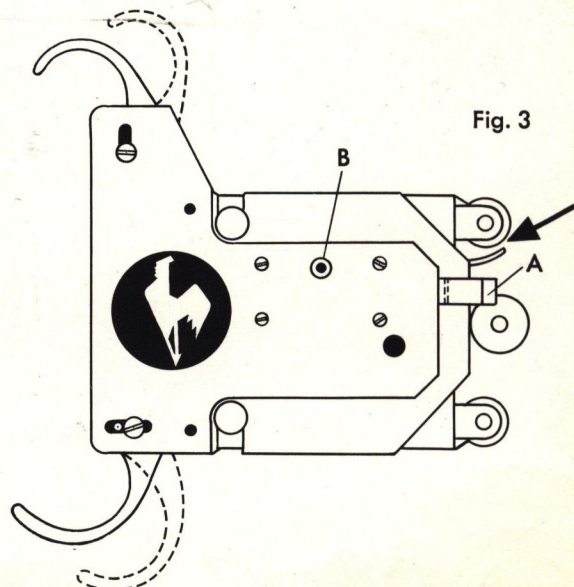

Fig. 3
1. Set the loop formers by pulling back the slide "A" (see figure 3).
3. Introduce the film into the opening indicated by the arrow (see figure 3).
5. Release the loop formers by depressing the small button "B" (see figure 3).
1. Release the loop formers by depressing the small button "B" (figure 3).